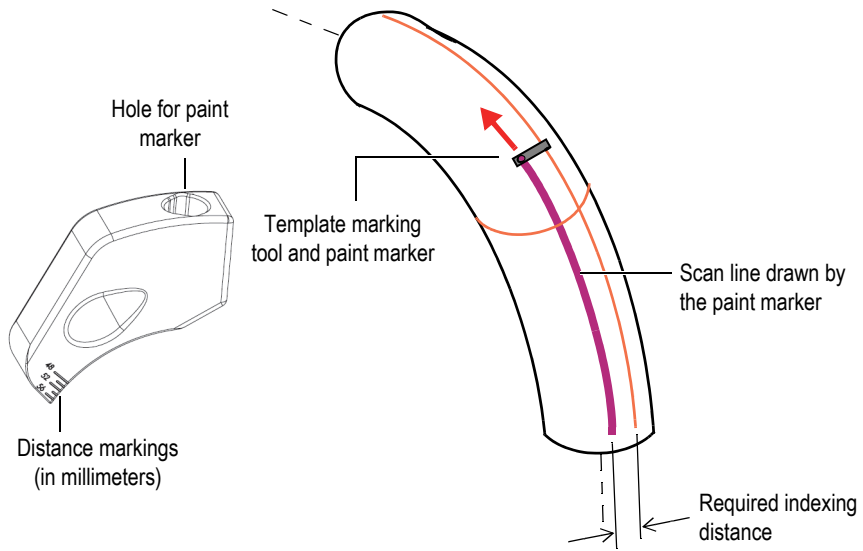

Figure 3-6 Drawing the scan lines on an elbow
4. Insert a paint marker (pen) into the hole in the template marking tool, then use the tool's markings as a guide to follow the first scan line and draw your next scan line at the required index distance (see Figure 3-6 on page 35). Draw the remainder of the scan lines this way around the circumference of the part.